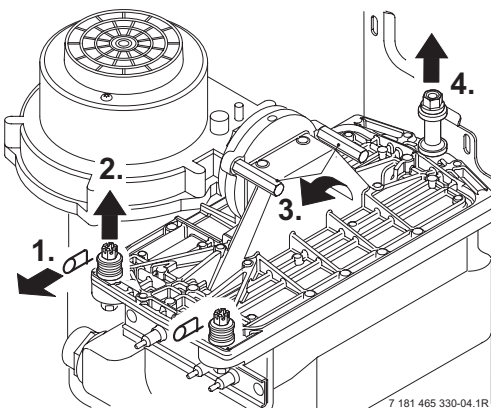

Fig. 56
- ▶ Remove the clips (1) and unscrew the two bolts (2). Refer to fig. 56.
- ▶ Unscrew and remove the two hexagon screws securing the fan (3).
- ▶ Slacken fully the rear securing bolt (4).